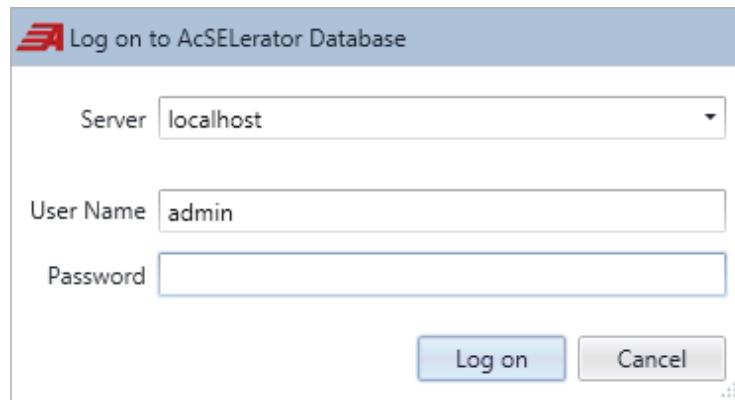

Figure 18 AcSELERATOR Database Log On Window
- Step 1. Select the **Device Manager** icon at the QuickSet Welcome screen, as shown in *Figure 17*. This opens the **Log on to AcSELerator Database** window shown in *Figure 18*.